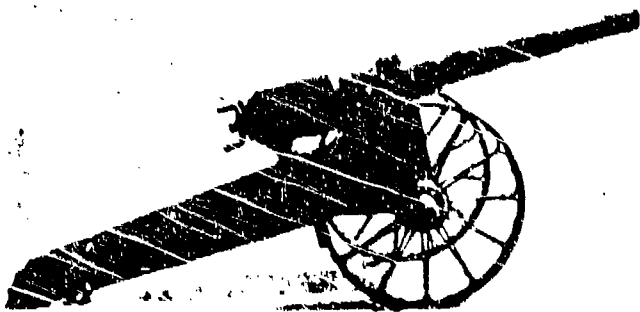

Figure 1-6. Mobile artillery piece circa 1855.
d. In 1855, England's Lord Armstrong designed a rifled, breech-loading cannon (fig 1-6) which meant the beginning of the end for the old, cast iron, round-shot, muzzle-loading cannon. This particular design was the first to use a cast tube with exterior hoops shrunk on over the tube to reinforce the metal, thus permitting longer ranges from lighter weapons. During the period of our own Civil War, Capt. T.J. Rodman, Army